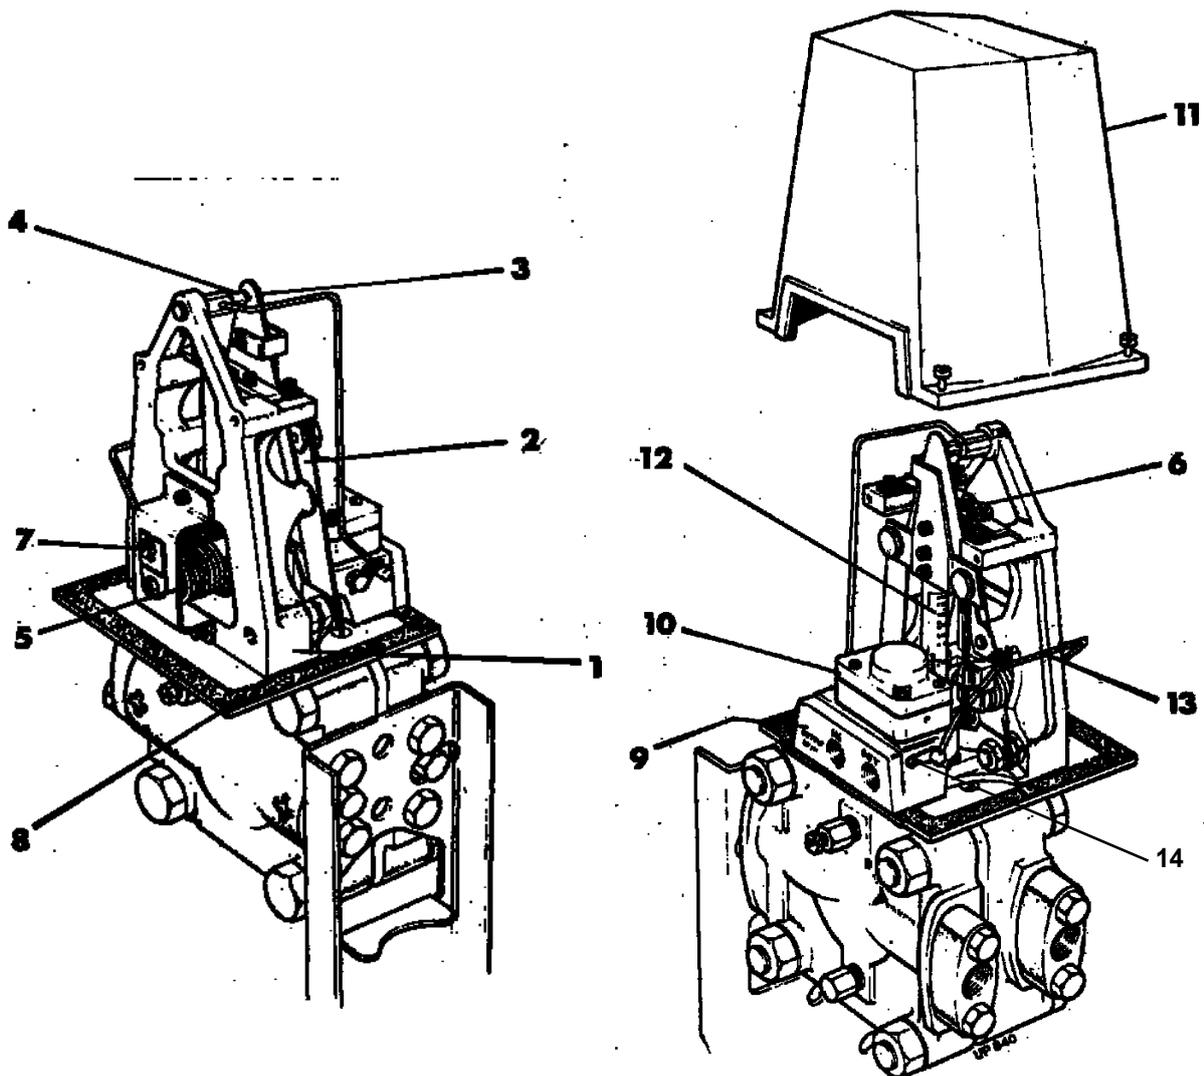

Fig. 3 - Transmission Unit
**Transmission Unit (Fig. 3)**
- Release the four captive screws and remove the transmission unit cover (11) (fig. 3).